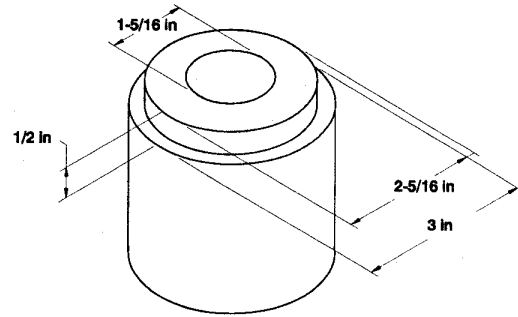

Figure 1.
The best way to assemble the flow sleeve (30), automatic valve body (35), piston (27) and porting block (33) is by using an assembly fixture such as that shown in figure 1. The fixture permits the parts to be stacked vertically during the assembly process. After the parts are stacked, the accumulator valve block (28) can then be placed on top of the stacked parts and tapped into place.
The assembly fixture shown in figure 1 should be constructed of aluminum or brass and should be at least 3-1/2 inches high but no more than 8 inches high.
The instructions in this section require the use of the assembly fixture shown in figure 1. If a fixture cannot be acquired, use an assembled foot assembly and clamp it into a vice.